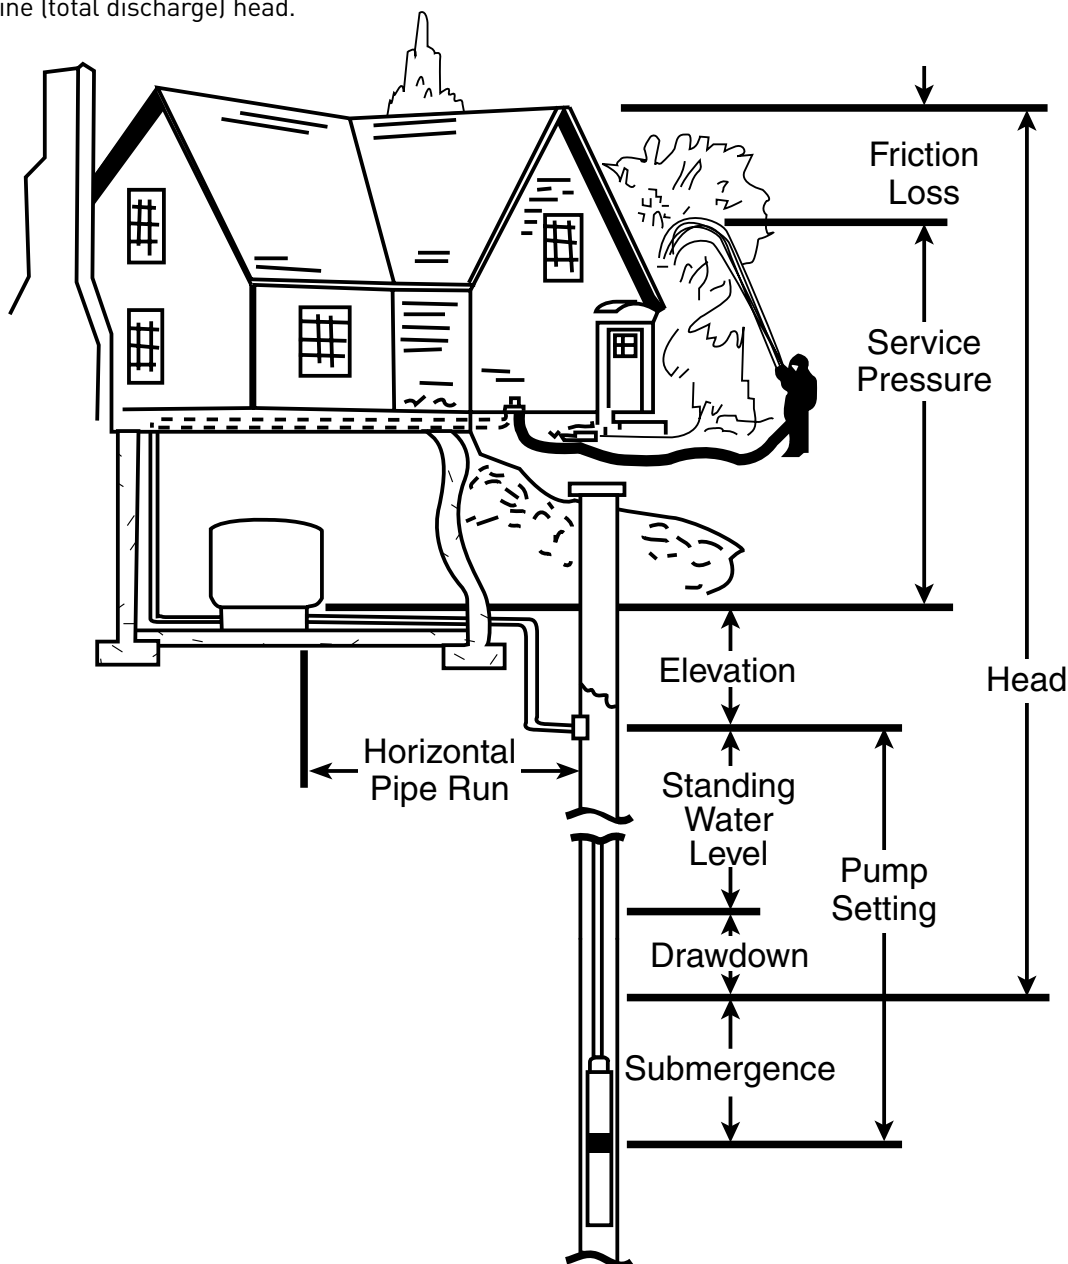

Figure 12-1: Common Pump Terminology
- 2. **What is the submergence?** The vertical distance in feet from the pump to the water level while the pump is operating (see Figure 12-1). If the pump is installed away from the well and is on higher ground, this elevation must also be included. This must not be confused with the standing water level.